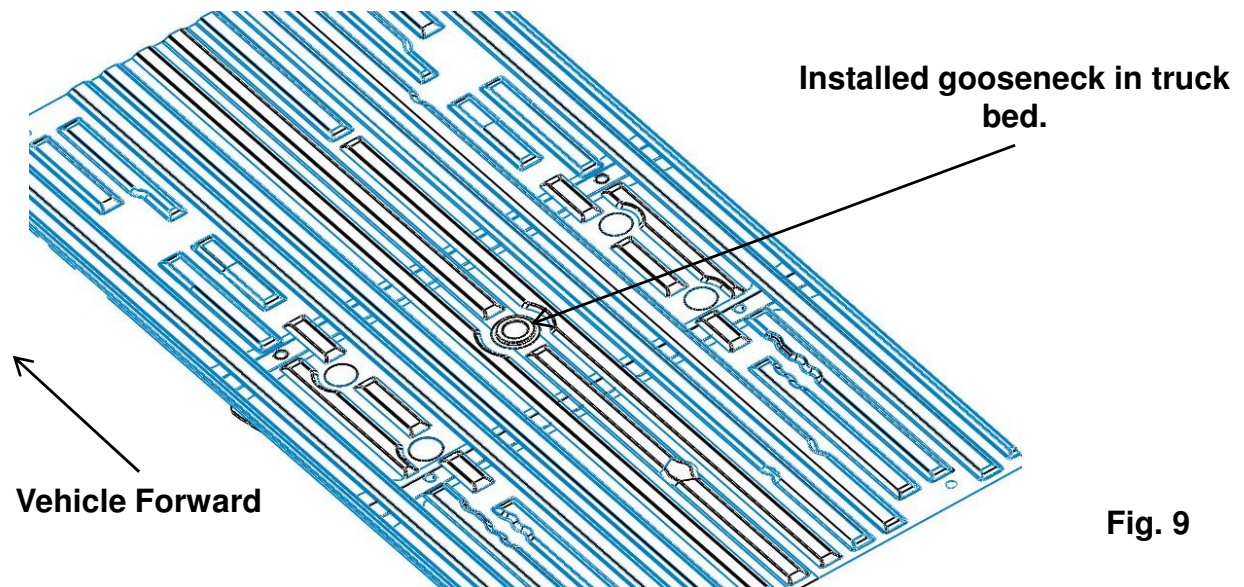

Fig. 9
6. Once the top of the gooseneck receiver tube is located in the hole (See figure 9), then tighten the hardware to a torque of 180 ft/lbs. It might be helpful to lower the spare tire to get extra room to swing the torque wrench.